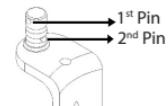

Figure 21
- If a fixed connection is preferred, the second pin should be aligned with one of the grooves, and the **ALIF Blade** pushed upward. When the second pin is engaged in the **Quick Connect Blade Holder**, the **ALIF Blade** will remain fixed. (Figure 21)